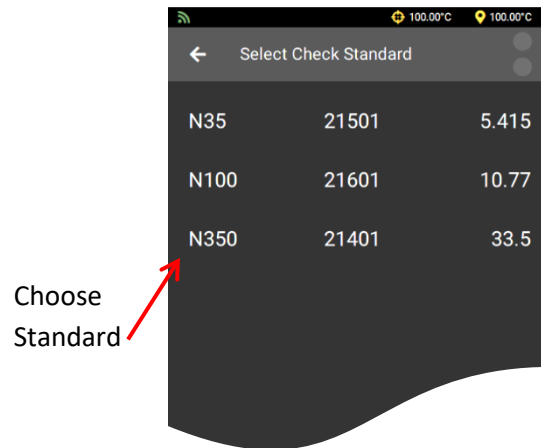

Figure 36: Select Standard for Sample Group
2. Select appropriate standard. See Figure 36.